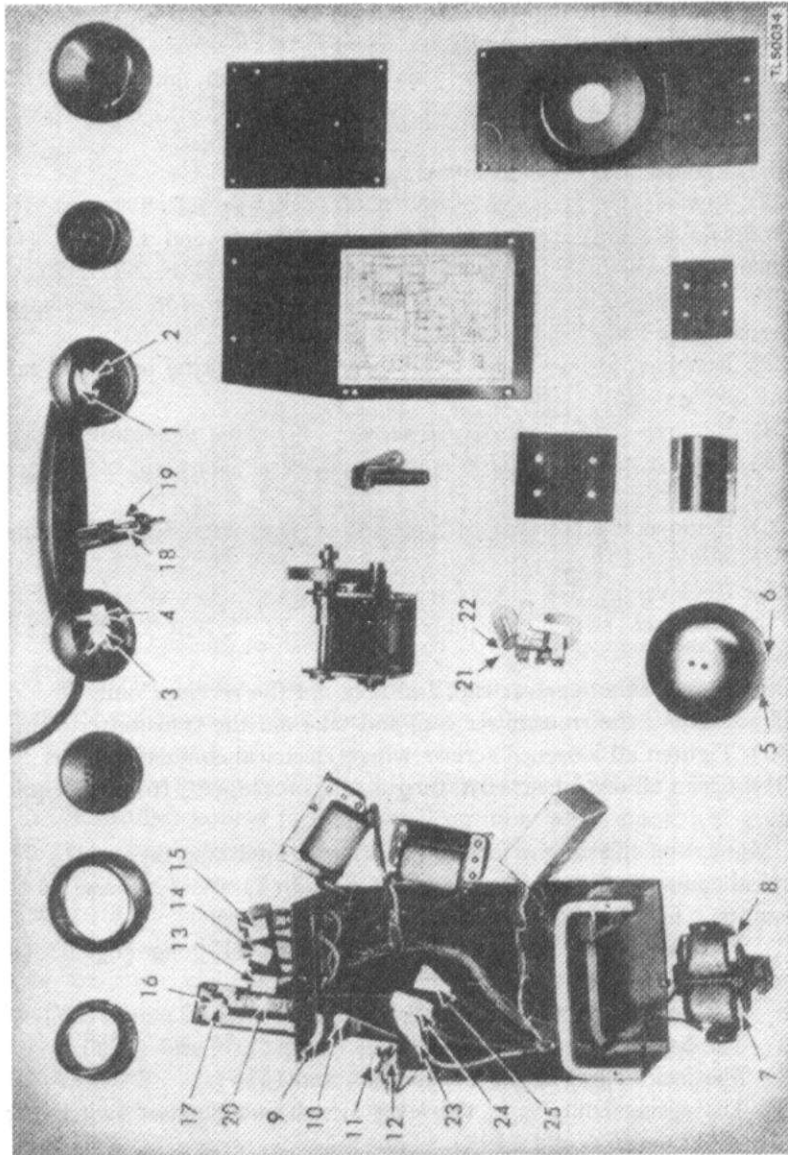

Figure 23. Telephone EE-8-A, disassembled and masked (case and generator magnets not shown).
- (22) Remove the screws holding Coils C-105 and C-158 to the chassis and remove the coils. DO NOT UNSOLDER THE LEADS.
- (23) Remove the two screws from the generator spring pack, and take off the spring pack.
- (24) Remove the four screws from the top of the generator.
- (25) Remove the two lower screws from each side plate of the generator.
- (26) Remove the bottom field plate and the magnets. (*Generator GN-38 only*).
- (27) Remove the two screws from the handset lever switch, and lift out the handset switch assembly. DO NOT UNSOLDER THE LEADS.
- (28) Remove the receiver cap, and take out the receiver unit.
- (29) Remove the transmitter cap, and take out the transmitter unit.
- (30) Tighten all loosened screws where electrical contact is made.
- (31) Clean all dirt, dust, rust, fungus, oil, grease, etc., from the equipment.
*c. MASKING.* Cover the following parts with masking tape. (1) The electrical contact points on the receiver (fig. 23 (1) and (2)) and on the transmitter (fig. 23 (3) and (4)).
- (2) The two points where the clapper strikes the gong (fig. 23 (5) and (6)).
- (3) The core contacts on the ringer coils (fig. 23 (7) and (8)).
- (4) The battery contacts (fig. 23 (9), (10), (11), and (12)).
- (5) The jack holes (fig. 23 (13), (14), and (15)).
- (6) The spring contacts of the lever switch and handset switch (fig. 23 (16), (17), (18), and (19)).
- (7) The opening below the screw switch (fig. 23 (20)).
- (8) The contact points on the generator spring pack (fig. 23 (21) and (22)).
- (9) The spade terminals of the three leads to the generator (fig. 23 (23), (24), and (25)).